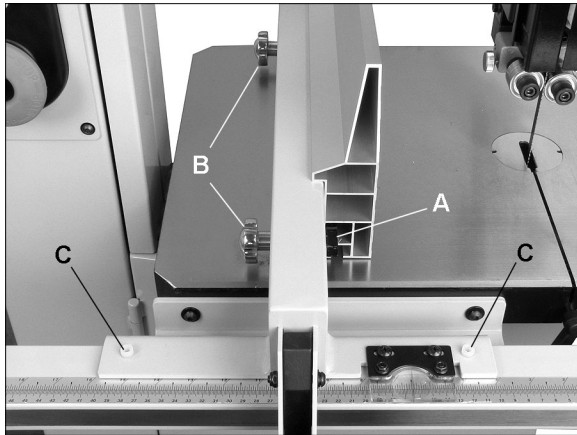
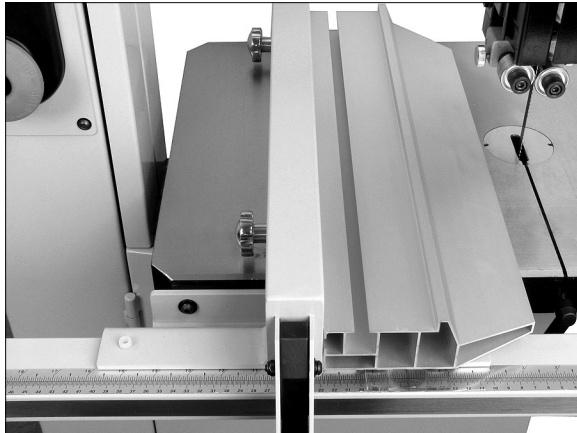

Figure 6 – vertical position
Figure 7 – horizontal position
Refer to Figures 6 and 7.
Loosen lock bar (A) using knobs (B). Pull out on lock bar until it protrudes enough on which to slide the aluminum fence plate from one end, as shown in Figure 6. Retighten knobs.
The aluminum fence plate can be installed in one of two positions; vertically (resaw position), as shown in Figure 6; or horizontally as shown in Figure 7.
2. If clearance is not equal, use a 5mm hex key to rotate the two nylon adjustment screws (C, Figure 6) the *same amount* to raise or lower fence body on guide tube. Clockwise raises fence body, counterclockwise lowers.